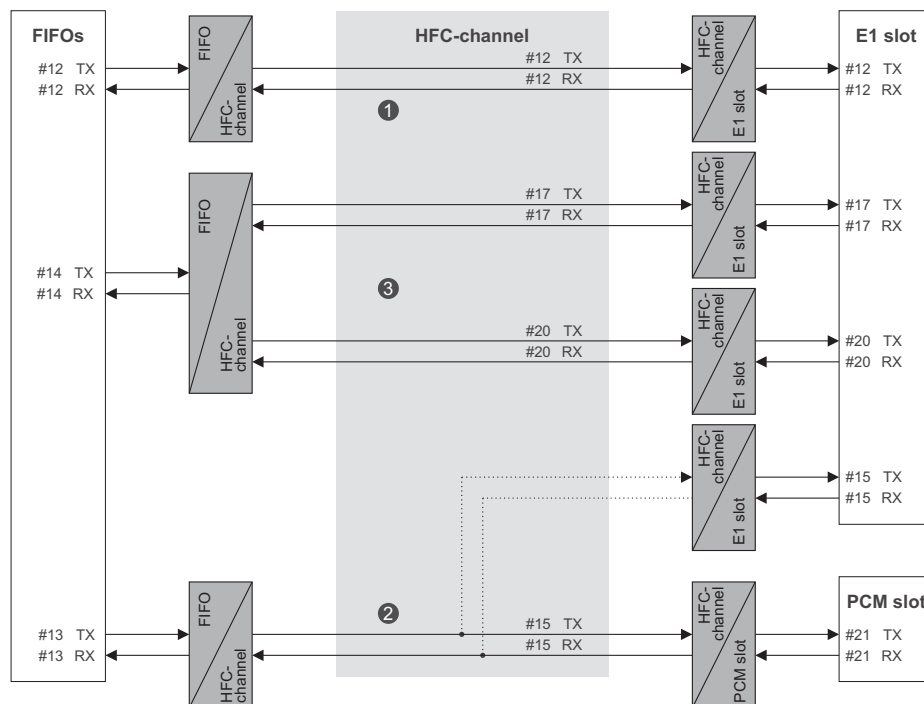

Figure 3.10: FSM example
Figure 3.10 shows an example with three bidirectional connections. The black lines illustrate data paths, whereas the dotted lines symbolize blocked HFC-channels. These are not used for data transmission, but they are necessary to enable the settings.
**Table 3.4:** List specification of the example in Figure 3.10